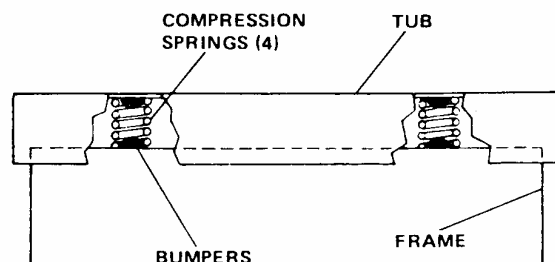

Figure 2-8. Compression Springs Properly Positioned
2. Be sure that compression springs are positioned correctly between upper and lower bumpers. (See fig. 2-8.)